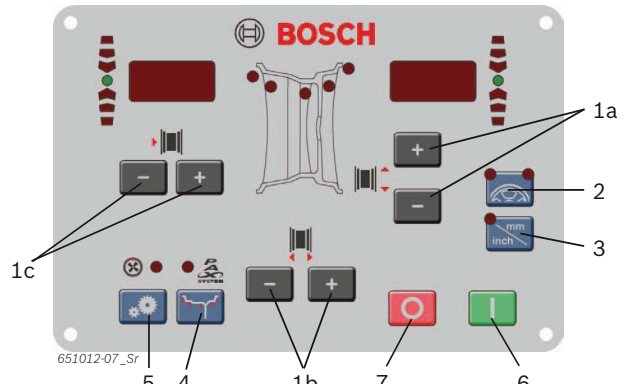

Fig. 6: Buttons on the control/display panel
The rim distance is not displayed. You can check that the value has been correctly registered via Fig. 6, Item 1, however.
If the rim distance and rim diameter cannot be electronically measured, the wheel data may also be entered manually (Fig. 6, Item 1).
2. Select the measured rim width using the <-> or <+> button for rim width (Fig. 6, Item 1).
2. Enter the actual number of spokes using the <-> or <+> button (Fig. 6, Item 1).